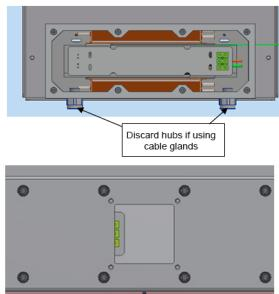

Figure. 2
1. For NEC installation connection to the black (Line), white (Neutral) and green (Ground/Earth) can be made with appropriate wire connectors outside of the fixture, the connectors can be placed in the fixture through the hub. If terminal blocks are being used, loosen the screws and remove the driver compartment cover. The screws should be retained in the cover by the cover gasket. See Figure 2 for more details
4. Replace the driver compartment cover (KFLH) or access cover (KFL2H). Securely tighten the screws. (40 in-lbs ± 5 in-lbs/4.5N-m ± 0.6 N-m) See Figure 2 for more details.